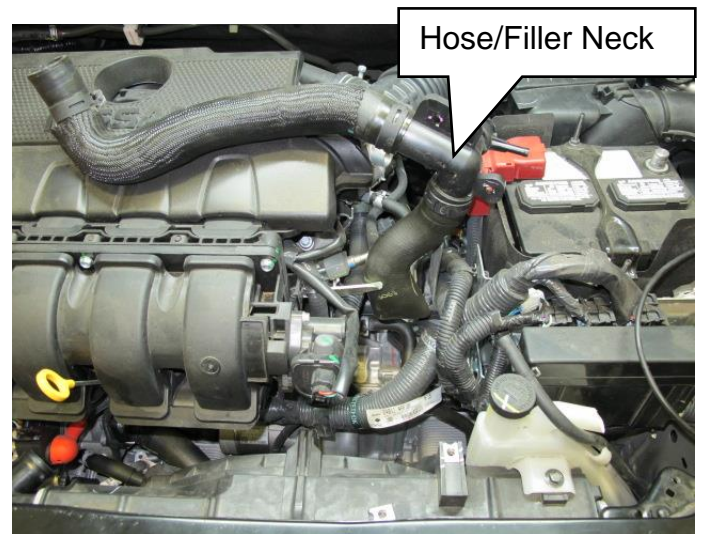

Figure 17
23. Position the upper radiator hose/filler neck assembly out-of-the way as shown in Figure 17.